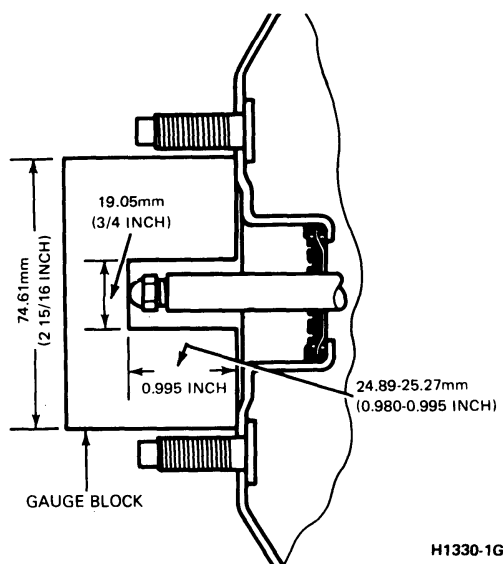

FIG. 15 Bendix Booster Push Rod Gauge Dimensions and Adjustment—Bronco, E-100—E-350 and F-100—F-350
1. Before installing the master cylinder, check the distance from the outer end of the booster assembly push rod to the front face of the brake booster assembly. Turn the push rod adjusting screw in or out as required to obtain the specified length (Fig. 15).